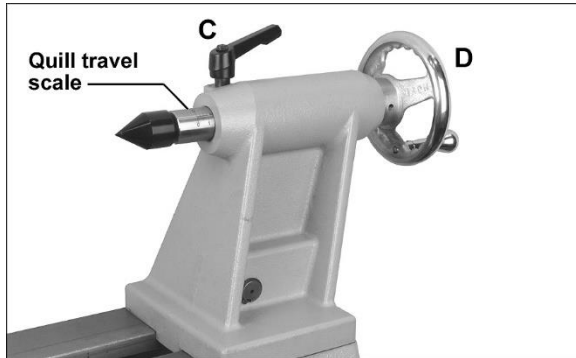

Figure 8-6: installing center in tailstock
3. To remove the center from the tailstock, loosen locking handle (C, Figure 8-6) and retract quill by rotating handwheel counterclockwise until center dislodges on its own. Hold the center with one hand to prevent it from falling out of spindle, which can damage it.